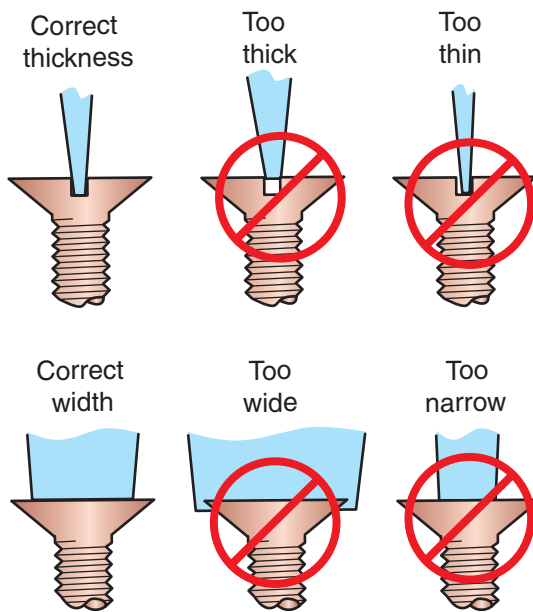

Figure 3-21 The blade of a screwdriver should fit the screw slot snugly to prevent slipping or slot damage.
- **Flat (or slot) tips.** These range in size from very small (1/16 inch wide) to large (3/4 inch or wider). Be sure to always choose a screwdriver of correct thickness and width, as required by the fastener (Figure 3-21).